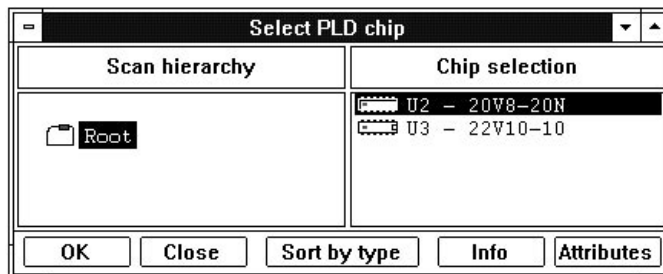
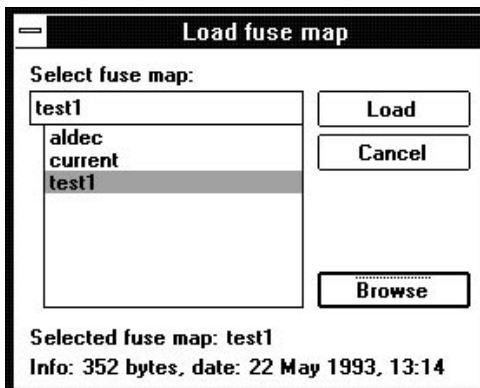

Figure 2-5. Selecting a PLD to load JEDEC file.
Figure 2-6. Load JEDEC File Window.
- ☐ when the simulator displays a list of all available PLDs (Figure 2-5) at the current hierarchy level, select the desired PLD
- ☐ then load the appropriate JEDEC file from the window shown in Figure 2-6, which appears when you select the PLD device.
To load a JEDEC file for the first time to the current project you may need to use the **Browse** option (Figure 2-6). This will allow you to find your JEDEC file on the appropriate disk, and add it to the project resources. You can also use the **Resources** option within the **Project Manager** window to prepare the list of project resources in advance.
To load a JEDEC fuse map into a PLD that resides within a schematic device (hierarchical schematic), select the **Load Fuse Map** option from the simulator **File** menu. ACTIVE-CAD will display the window in Figure 2-5, which shows the design hierarchy. Click on the desired schematic macro in the **Scan Hierarchy** window and when the PLD devices are listed to the right, in the **Chip selection** window, double-click on the desired PLD device. ACTIVE-CAD instantly displays Figure 2-6 which lists all available JEDEC fuse maps. Select the desired fuse map and click on the **Load** button. The PLD is ready to simulate. You can also activate the **Browse** option and load JEDEC files from other system directories.